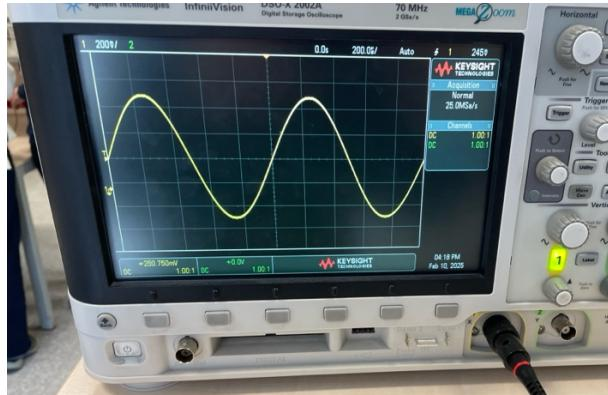

Figure 2.1: 5Vpp sinusoidal signal with frequency 1Khz.
**Task 2:** In Task 2, 5 Vpp sinusoidal signal with frequency 1kHz has been generated without a DC component as seen in the Figure 2.1.